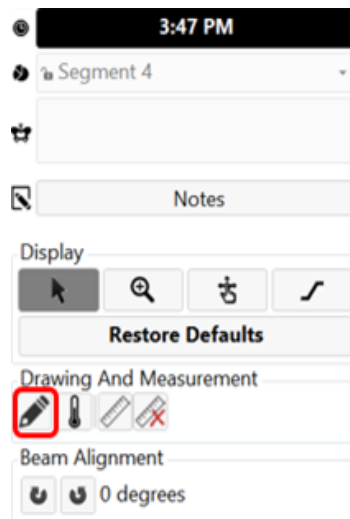

Figure 52: Prostate-boundary 'Drawing' tool on Delivery screen
2. Once delivery is paused, expand the right panel in the Delivery workspace to select the prostate boundary drawing tool (*Figure 52*).